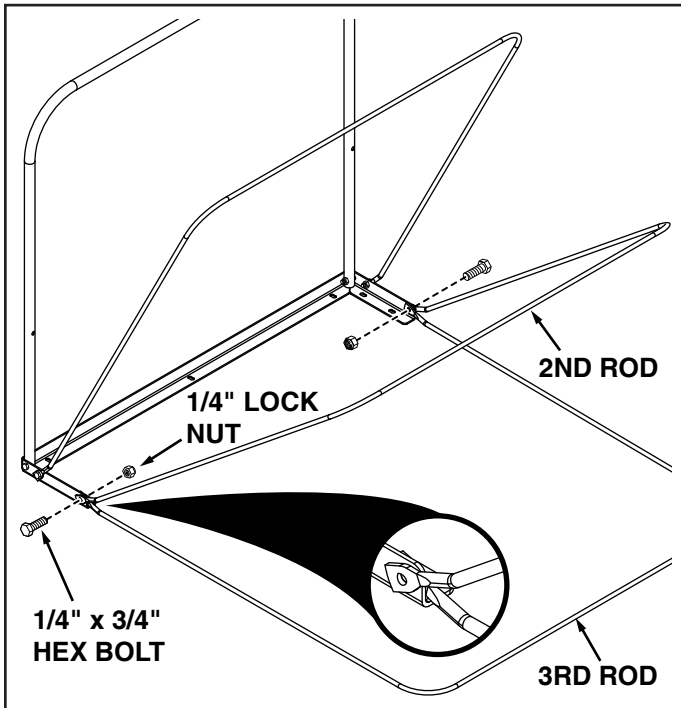

FIGURE 25
9. Attach the second lower support rod to the outside and the third lower support rod to the inside of the top angle support using two 1/4" x 3/4" hex bolts and 1/4" lock nuts. **DO NOT TIGHTEN YET.** See figure 25.